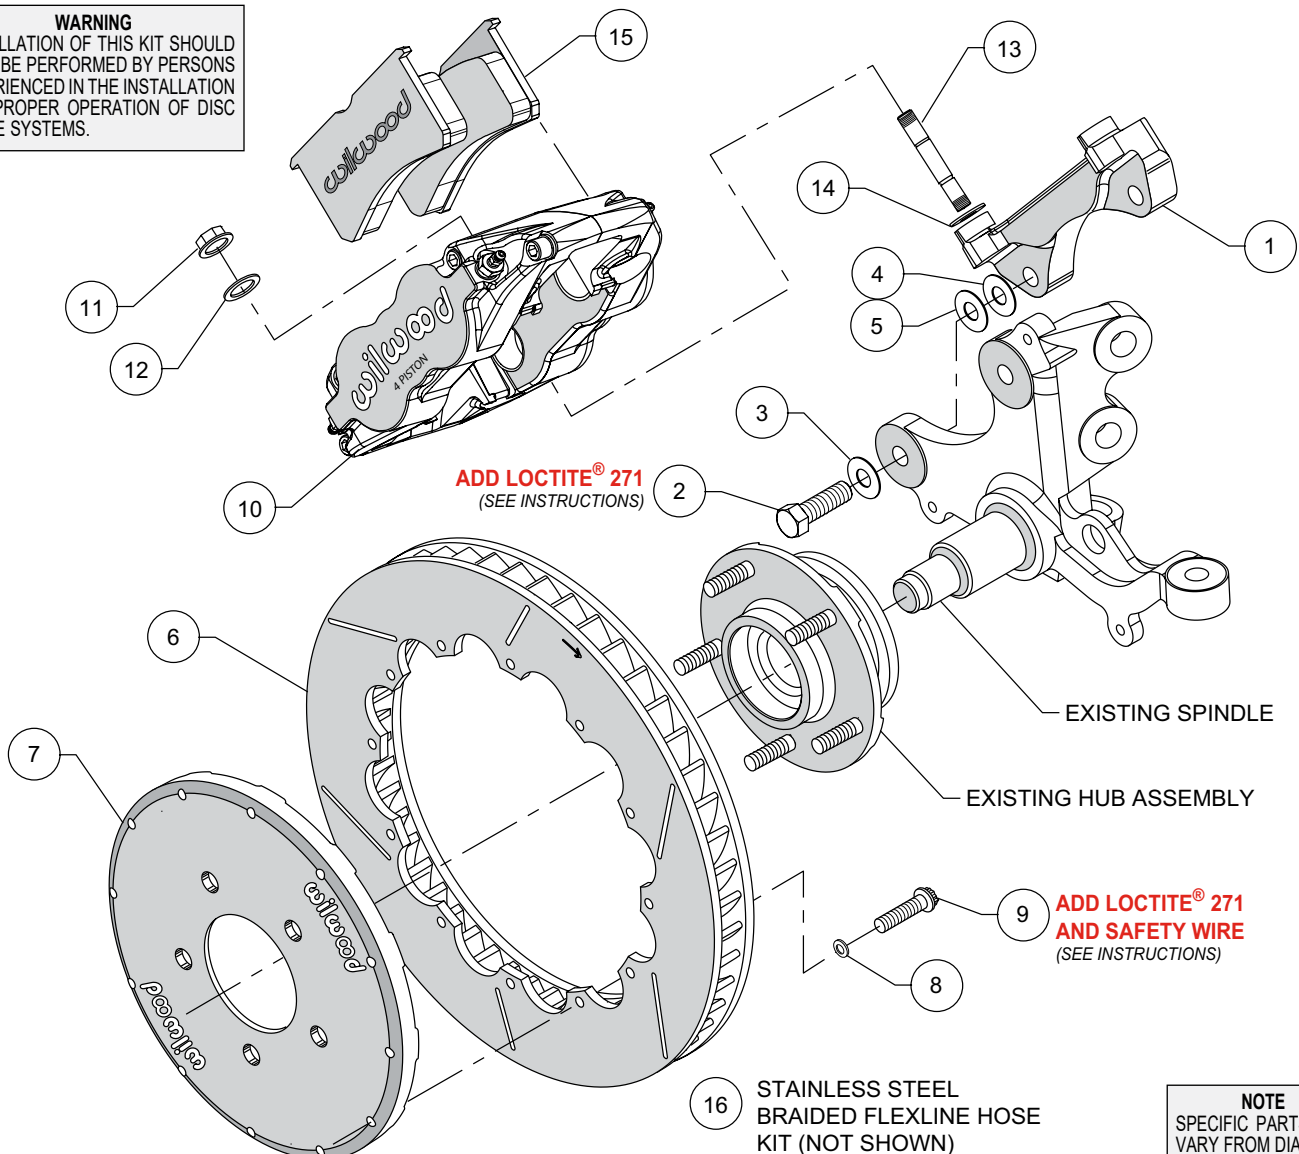
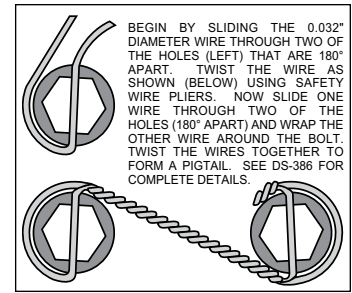

Figure 1. Typical Installation Configuration
Figure 3. Safety Wire Diagram
NOTE: Numbers in parenthesis refer to the parts list and Figure 1 on the preceding pages.
- The caliper mount bracket (1) should initially be installed with clean, dry threads on the mounting bolts. Orient the bracket as shown in Figure 1, and install using bolts (2) and washer (3). Initially place one .033 thick shim (4) on each bolt between the bracket and upright, Figure 1. Temporarily tighten the mounting bolts. Later, after the caliper alignment has been checked, the mount bolts will be secured using red *Loctite*® 271.
- Orient the rotor (6) and the hat (7) as shown in Figure 1 and Photo 1. Attach rotor to hat using bolts (9) and washers (8). Apply red *Loctite*® 271 to the bolt threads and torque to 155 in-lb using a criss-cross pattern. Safety wire bolts using standard 0.032 inch diameter stainless steel safety wire as shown in Figure 3. Refer to Wilwood's data sheet DS-386 (available at www.wilwood.com/Pdf/DataSheets/ds386.pdf) for complete safety wire installation instructions.
- NOTE:** *This kit contains distinct right and left hand calipers that must be mounted in a specific direction, as described below.* Initially place one .035" thick shim (14) on each stud (13) as shown in Figure 1 and Photo 2. Mount the caliper (10) onto the bracket (1) using lock nuts (11) and washers (12), Figure 1. Ensure that the caliper is mounted so that the largest pistons are at the rotor exit end of the caliper, in relation to the direction of rotor rotation. Temporarily tighten the lock nuts and view the rotor through the top opening of the caliper. The rotor should be centered in the caliper, Photo 3. If not, adjust by adding or subtracting shims (4 and/or 5) between the bracket and the upright. Always use the same amount of shims on each of the two mounting bolts. Once the caliper alignment is correct, remove the bracket mounting bolts one at a time, apply red *Loctite*® 271 to the threads, and torque to 60 ft-lbs.
- Remove the caliper center bridge pad retainer bolt, nut, and tube from the caliper. Insert the brake pads (15) into the caliper, with